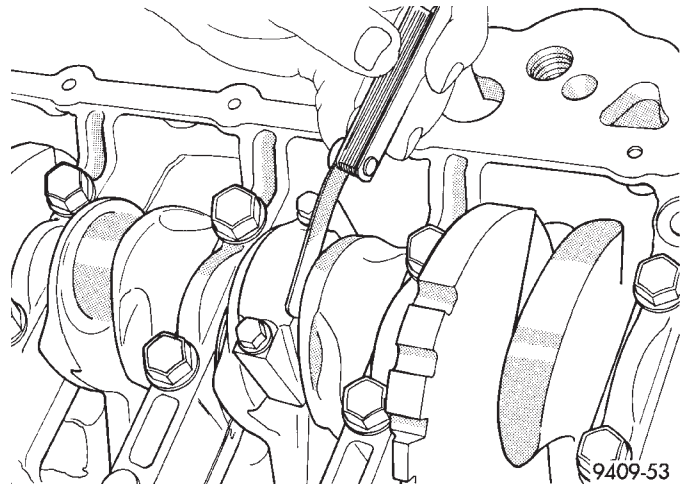

Fig. 86 Checking Connecting Rod Side Clearance
(9) Tighten the bolts to 27 N·m PLUS 1/4 turn (20 ft. lbs. PLUS 1/4 turn)
(10) Using a feeler gauge, check connecting rod side clearance (Fig. 86).